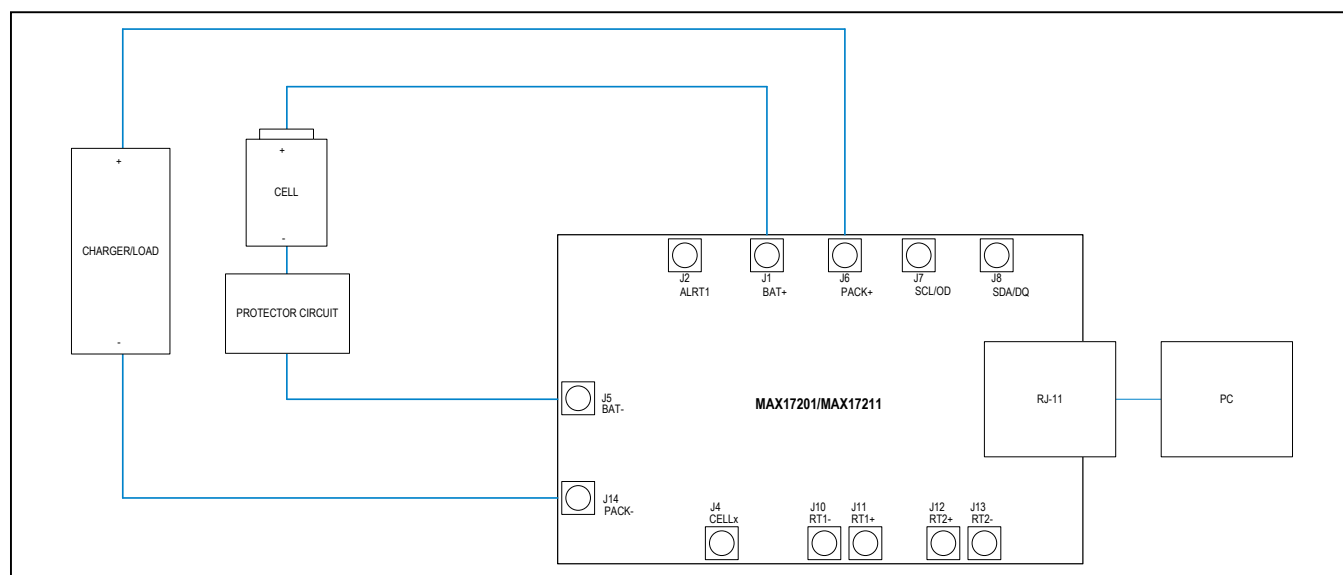

Figure 1. MAX17201/MAX17211 Board Connections
- Make connections to the EV kit board based on cell pack configuration as shown in the following figures. The load or charger circuit can be connected at this time as well. Figure 1 shows the connections for a 1S cell pack. The cell connects between the BAT- and BAT+ pads and the charger/load connect between the PACK- and PACK+ pads.